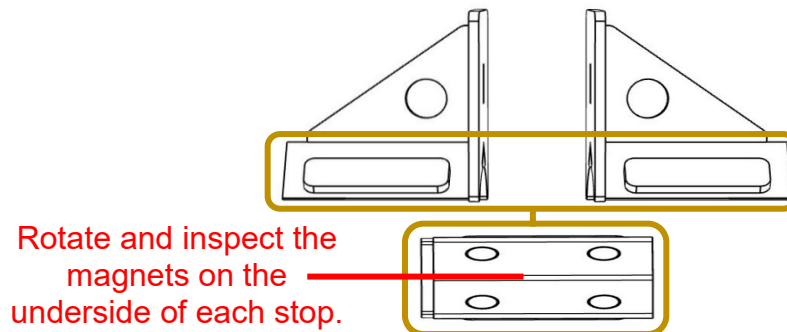

Figure 98: Gantry Stop Inspection
**Gantry Stop Inspection** – Inspection of the Gantry stops should occur at 150-hour intervals. Ensure that the TyBOT is equipped with four Gantry stops (see Figure 98). Inspect each Gantry stop for any distortion or cracked welds, and ensure that the four magnets are attached to the underside of each stop.